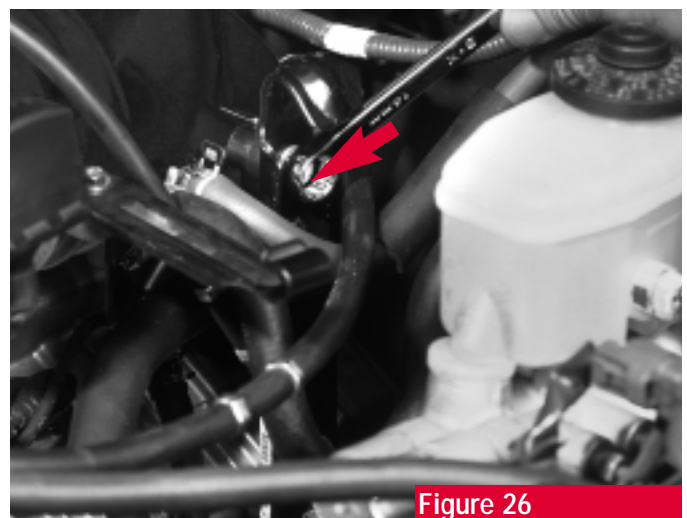

Figure 26
20. Remove the bolt holding the manifold to the intake chamber stay (**see arrow, figure 26**). Save the bolt.
4. If the assembly sits flat on the engine, put the stock manifold brace (driver's side) bolt in first (**see arrow, figure 26**) and then install the stock nuts on the studs at each end of the manifold and hand tighten.